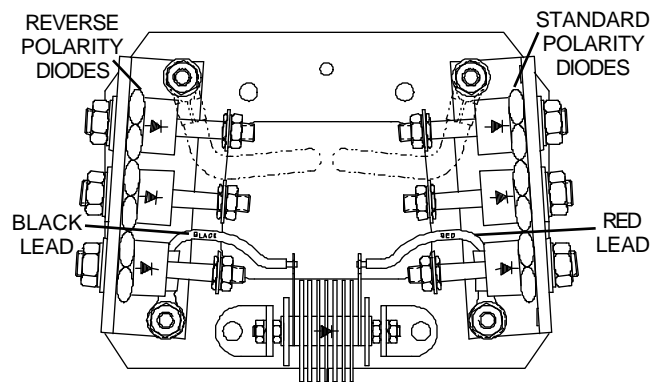

FIGURE 6-34 SURGE SUPPRESSOR
**CAUTION:** THREE FORWARD POLARITY AND THREE REVERSE POLARITY DIODES ARE USED BE SURE YOU HAVE THE CORRECT PART INSTALLED IN THE CORRECT LOCATION. THE SURGE SUPPRESSOR IS POLARIZED. OBSERVE POLARITY MARKINGS WHEN CHANGING THE SURGE SUPPRESSOR. (Figure 6-34.)